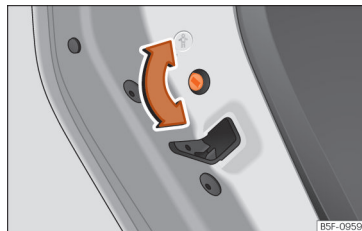

Fig. 85 Childproof lock on the left hand side door.
- With the door open, rotate the groove in the door using the ignition key, clockwise for the left hand side doors »» Fig. 85 and anti-clockwise for the right hand side doors.
- With the door open, rotate the groove in the door using the ignition key, anti-clockwise for the left hand side doors » Fig. 85 and clockwise for the right hand side doors.